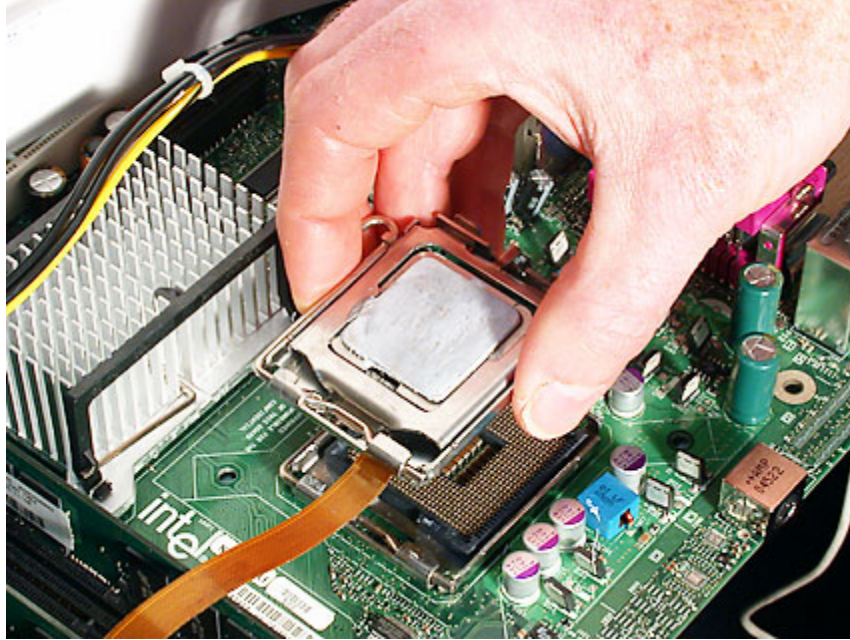

Figure 2.05 Inserting the second LGA socket with CPU installed, into the LGA socket of the board under test
6. Insert the interposer into the LGA socket of the board under test (Figure 2.05). The interposer socket should be inserted in the same orientation as the socket on the board under test. However, there is a slight diagonal offset between the two sockets in the direction of pin (land) 1.